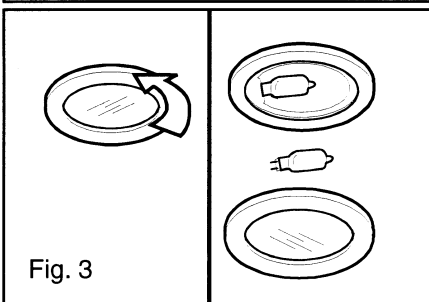

Fig. 3
Replace Lights For Models HDW, HGSW, HCSW36/42 (Fig. 3)
- Using a flat edge from a screwdriver or equivalent tool pry loose the lens cover as shown in Figure 3.